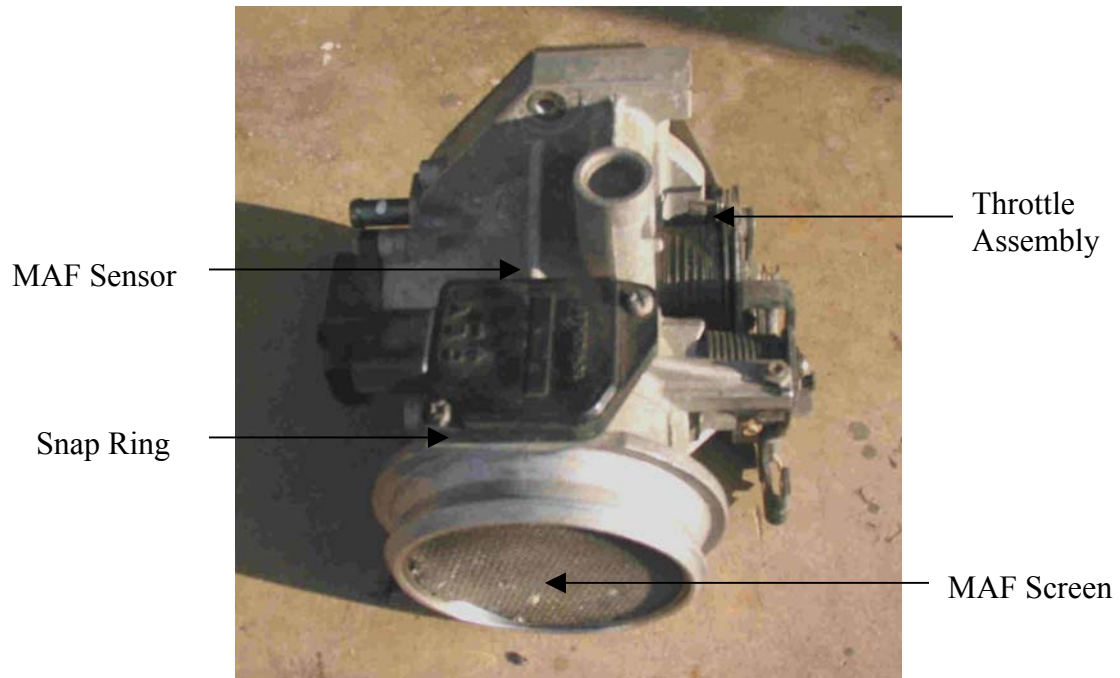

Figure 1: Exterior of Throttle Body
1. Remove the snap ring retaining the mass airflow (MAF) screen with the snap ring pliers. **GENTLY** remove the MAF screen from the throttle body. Be careful not to damage the screen. Reference figure 1.
2. Remove the two retaining bolts on the MAF sensor on the of the throttle body. Reference figure 1.